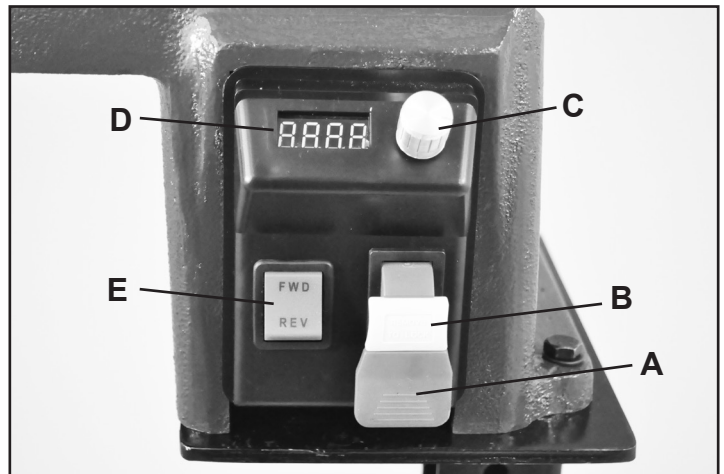

FIG. 6
1. **ON/OFF SWITCH:** (FIG. 6, A) The safety, paddle ON/OFF switch is located on the right foot of the lathe for quick, easy and safe access. Lift the paddle to turn the lathe on. Push the paddle down to turn the lathe OFF. A safety lock insert (B) is included in the switch. This can be removed to disable the switch, so that the machine can not be turned on by accident, or by children.